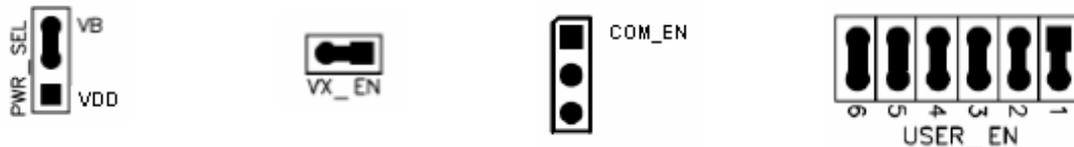

Figure 1. DEMO9S08QG8 Default Settings
1. Check the jumper settings and make sure they are in the default position. Use Figure 1 as a guide.
4. Check the jumper settings and make sure they are in the default position. Use Figure 1 as a guide.